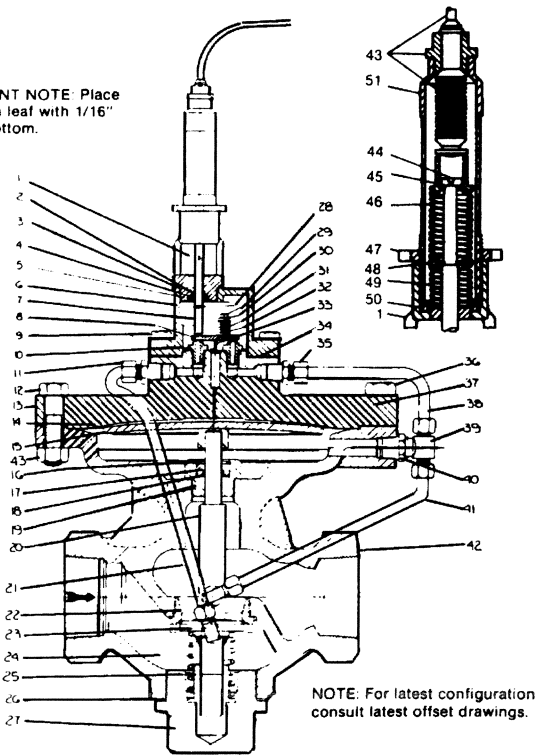

Figure 3 - class GTK Temperature Regulator
1. Graphite or compound should not be used on joints. Moving parts require no lubricant except as noted for seat ring (figure 3).
2. Place valve plug (20), spring (24) and gasket (26) in position on bottom cap (27), and screw to body. Tighten.
3. Place diaphragm disc (15) on valve plug with guide over stem end.
4. Make sure that faces of diaphragm cover (13), body (42) and diaphragm (14) are perfectly clean in order to insure tight sealing joint. Position diaphragm (two leaves**) (14) on diaphragm disc (15) making sure that diaphragm is properly in body recess. Assemble diaphragm cover (13) to body. Assemble bolts and nuts to regulator. Snug up bolts evenly on alternate sides of the regulator, then tighten. Reconnect tubing. **See note Figure 3.
5. Install pilot flange gasket, pilot flange, and pilot housing with assembled parts. Be sure that dowel pin (27) is in proper dowel pin hole in top of pilot flange for the particular service required. (Dowel pin hole stamped "H" is for heating service; dowel pin hole stamped "C" is for cooling service.) For units with this type of design .
6. Replace adjusting sleeve (51) and thermostatic element. Adjust for temperature as shown under Section II, Operation.